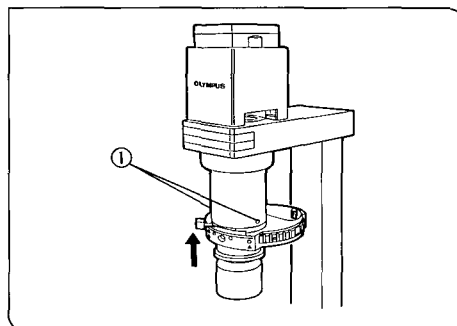

Fig. 30
1. Using the Allen screwdriver, loosen the two condenser clamping screws ①. (Fig. 30)
3. Position the turret index window at the front and tighten the condenser clamping screws ①.